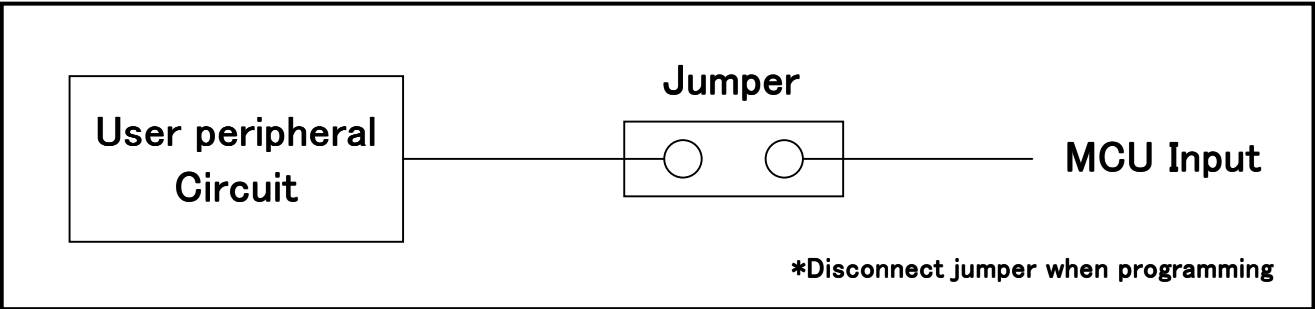

Figure 4.2: Collision Prevention Circuit Using Jumper
(2) An example of a collision prevention circuit when user peripheral circuit outputs is shown in Figure 4.2.